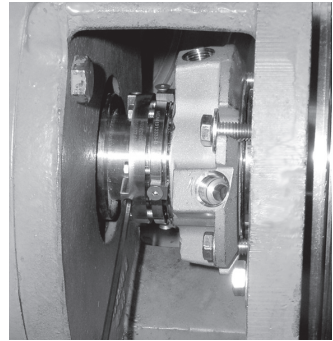

Figure 12
2.12 **Tighten the set screws.** See Figure 12.